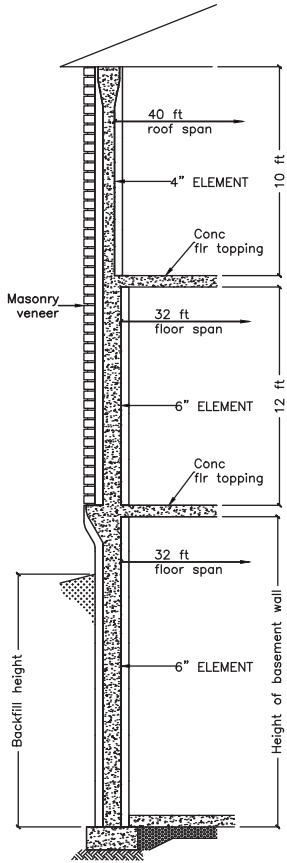

Fig 2A
Tables 2A to 2D shall be used in conjunction with corresponding Figures 2A to 2D, the notes listed below, and the building limitations noted in the “Reinforcement Tables” section, which form the basis of these tables.
2. Table 2A shall be read in conjunction with Fig 2A, and section “NOTES FOR TABLES 2A to 2D - ELEMENT BELOW-GRADE TABLES.”